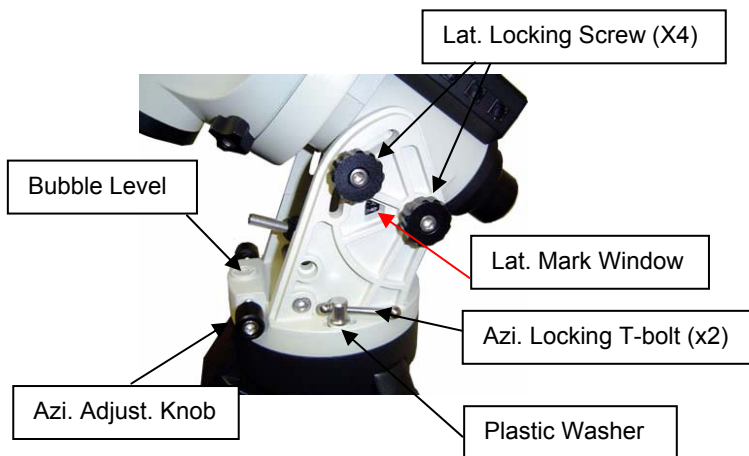
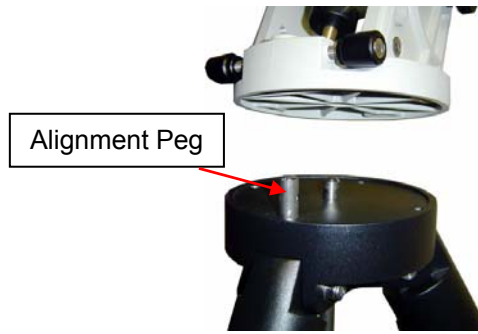

Figure 8
Figure 9
2. **Attach the EQ mount:** Retract the Azimuth Adjustment Knobs (next to the Bubble Level Indicator) to allow enough clearance for the Alignment Peg seating in the house. Put the mount onto the tripod head (or pier top) with bubble level on top of the Alignment Peg (**Figure 9**). Secure the mount head by tightening two Azimuth Locking T-bolts (**Figure 8**). Level the mount by adjusting individual tripod leg (or pier foot). You may use the build-in Bubble Level Indicator or an external torpedo level to check level.